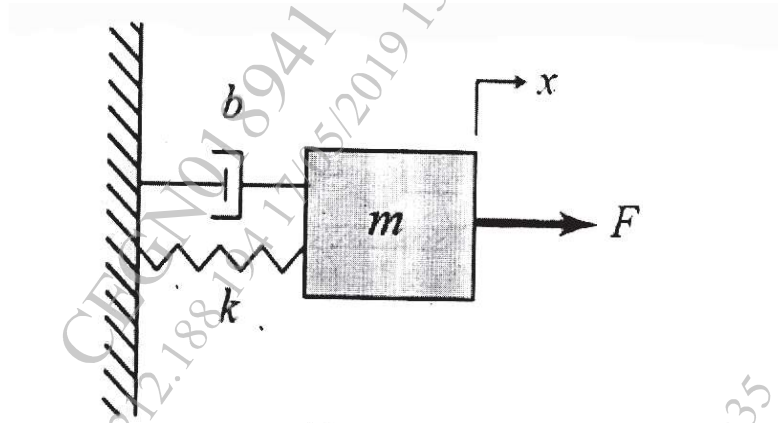

**Figure 2**
- Q6) a)** Consider a tank with inflow valve V1 and outflow valve V2 connected to the tank at top and bottom respectively. The level high (LH) and level low (LL) float switches are mounted at top and bottom to indicate the level. Develop a PLC ladder program to achieve the following objectives:[10]
- Q7) a)** A mass spring damper system is mounted on an massless cart as shown in Figure 2. Derive the transfer function between output y and input u.[10]